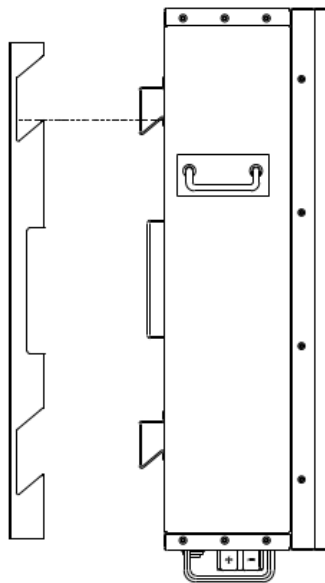

Figure 7
(3).Take the battery and move it in the direction shown in figure 7 below.